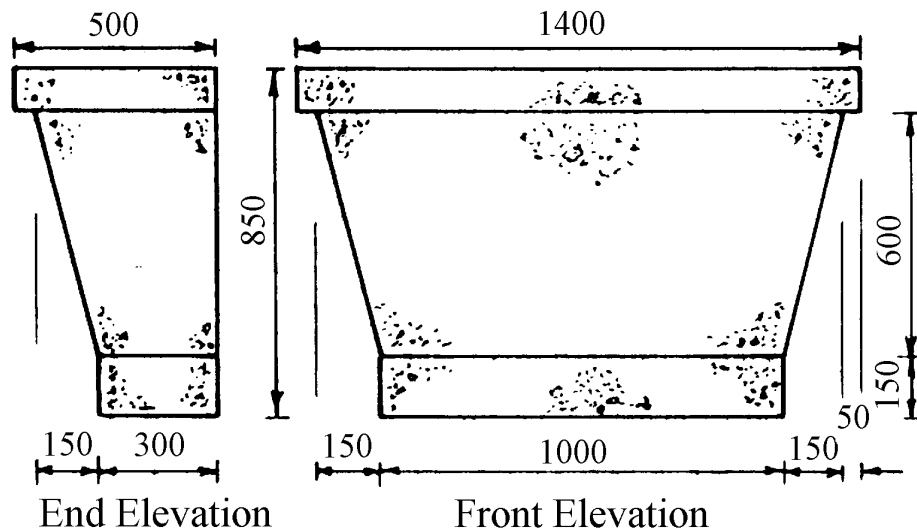

Fig.5
8. Figure 5 shows **TWO** elevations of a pre-cast concrete plinth to be used in a shopping precinct to support ornamental display trays for flowers.